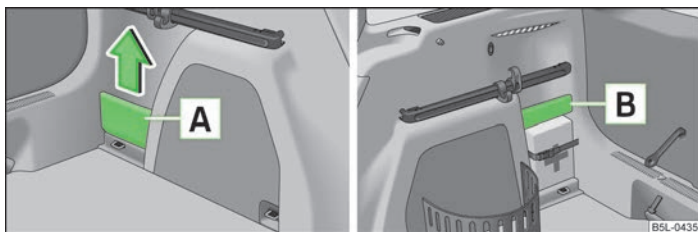

Fig. 83 Boot: Storage compartments
The cover for the side compartment [A] » Fig. 83 can be removed, thus enlarging the boot.
➤ Grasp the top part of the cover [A] and carefully remove it in the direction of the arrow » Fig. 83.
- The removable storage compartment [A] » Fig. 83 on the left side is suitable for stowing small objects weighing up to 1.5 kg.
- The storage compartment [B] » Fig. 83 on the right side is suitable for stowing small objects weighing up to 0.5 kg.